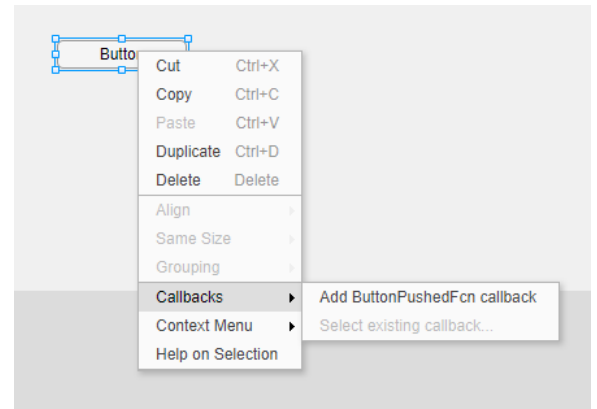

Figure 4. Screen capture showing how to create callback for GUI control
- a. Right-click on the button you are using to start recording data from the Arduino. Select Add callback as shown in the menu shown in Figure 4. This will add the callback to the code and switch to the Code View mode.
- a. Similar to step 3.B.a, create a callback for the plotting function (Figure 4).
- a. Create a callback for the save data button similar to steps 3.B.a and 3.C.a (Figure 4).